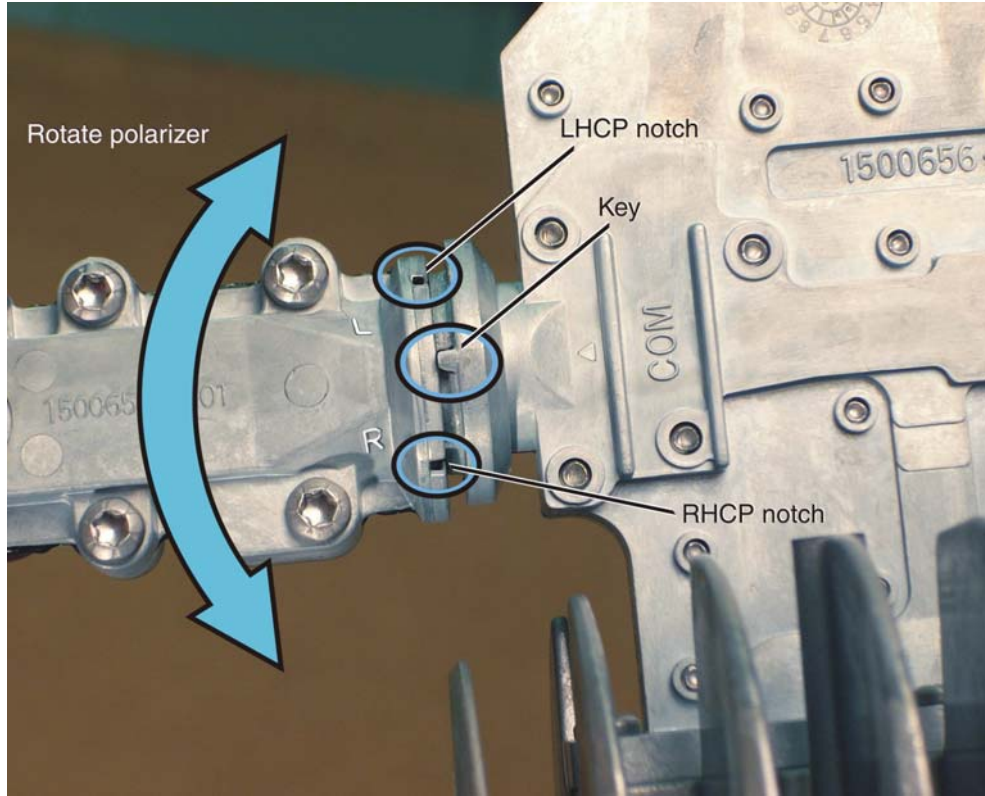

Figure 20: Adjusting circular polarization (collar removed)
2. Separate the polarizer from the TRIA and rotate it one quarter turn (clockwise for LHCP and counter-clockwise for RHCP), until the appropriate notch lines up with the key on the end of the TRIA. As shown in Figure 20, the LHCP notch is adjacent to the L on the polarizer and the RHCP notch is adjacent to the R on the polarizer).